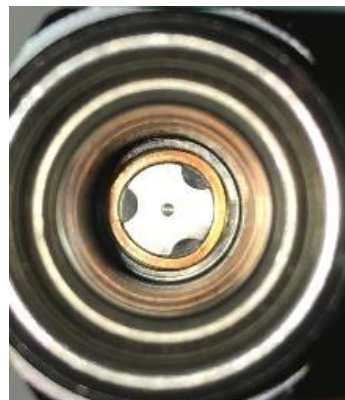

Figure 7-12: Solenoid Base Interior
10. Check to make sure the copper ring in the bottom of the solenoid base is not missing or broken into pieces. **See Figure 7-12.**